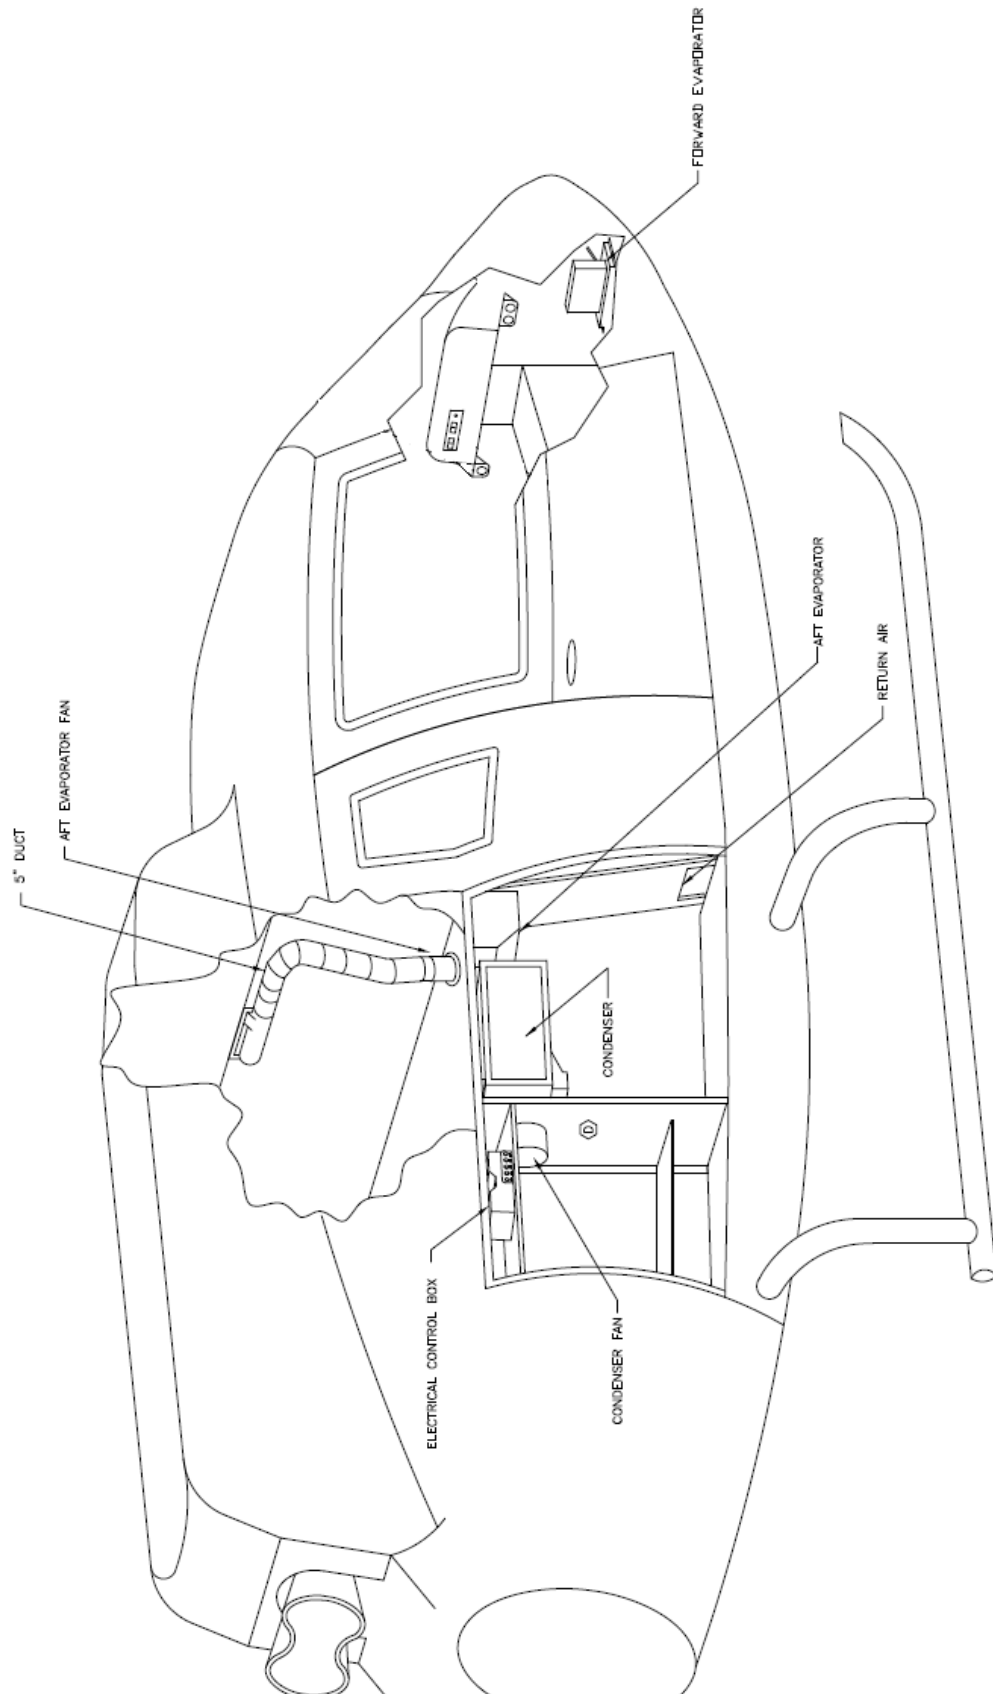
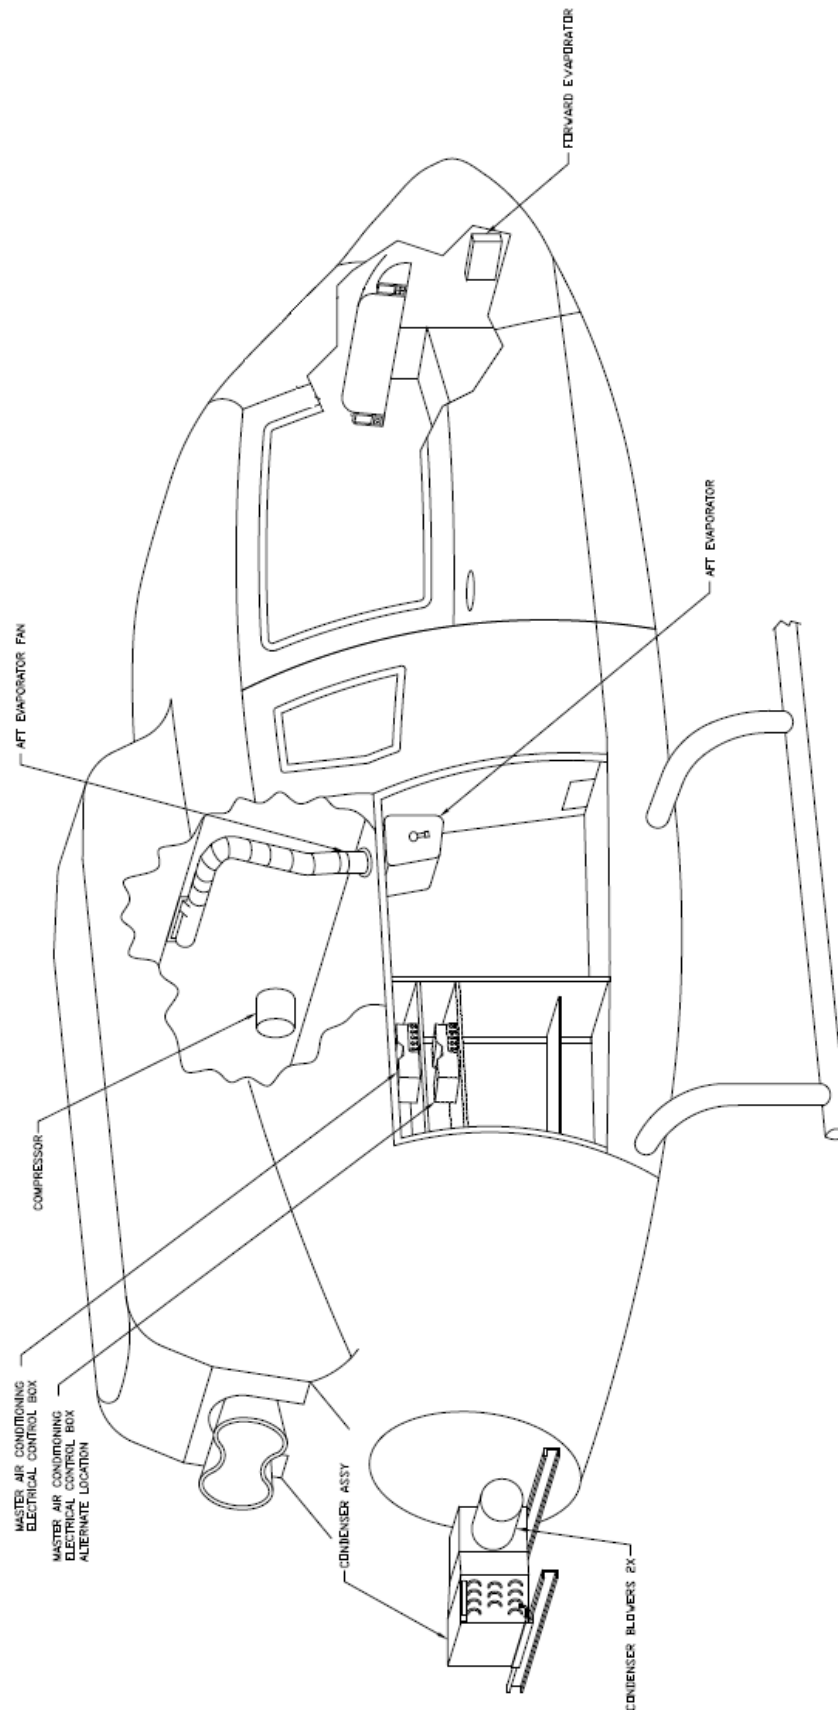

Figure 6-01
Figure 6-02
a) Access Item Identification (Ref. figures 6-01 & 6-02)
- **Condenser-** The condenser is located in one of two positions depending on kit part number (Ref. Section 21.00.00 System Description). The aft mounted condenser (Kit numbers 350-00-031HP and 130-00-031HP) (Ref. figure 6-02) is mounted in the tail boom mounted 5 in. above the baggage floor and is accessed by removing the tail boom closeout panel. The side mounted condenser is located in the right baggage compartment (Ref. figure 6-01) and is accessed by removing to baggage compartment close out panel.